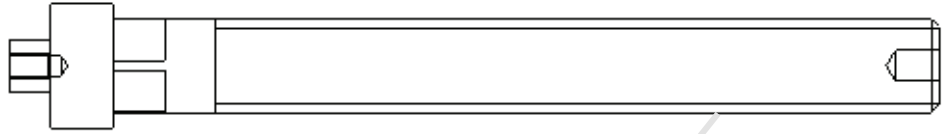

Figure 1–80
3. In the Drawing View dialog box, orient the view using the **Geometry references** option so that datum plane DTM1 faces Right and datum plane DTM2 faces Top. The view appears as shown in Figure 1–80.